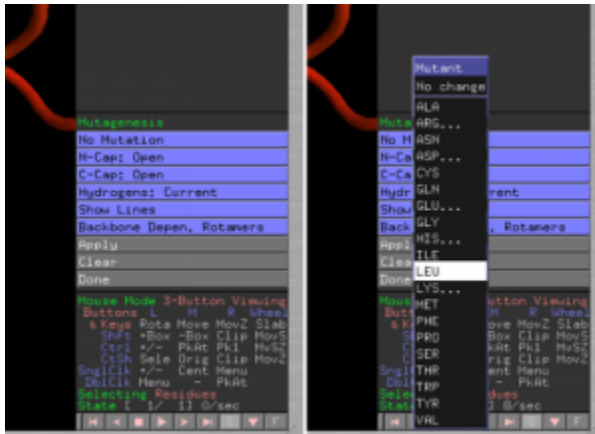

Fig. 1.5. Select the mutated amino acid. Click on No Mutation and pick an amino acid.
- On the bottom of the side panel you will see the mutagenesis options. Click on *No Mutation* and select the amino acid type you would like to mutate a side chain to (Fig. 1.5).